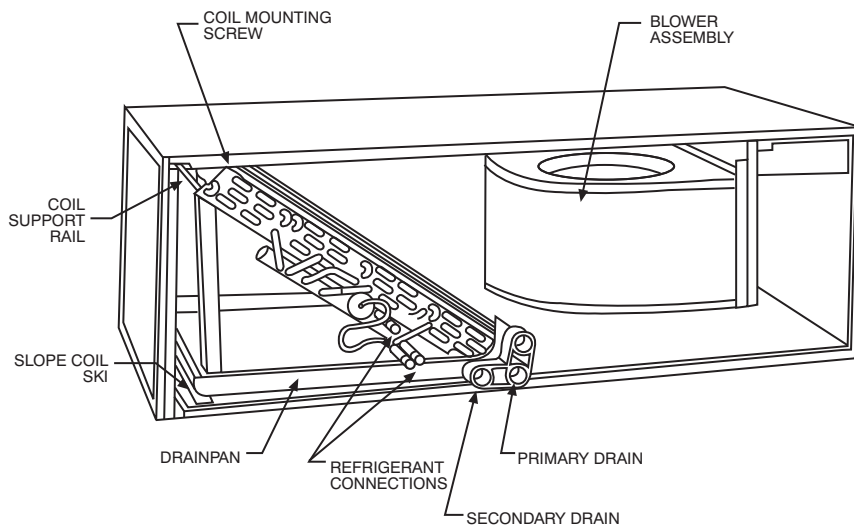

Fig. 4 – Conversion for Horizontal Right Applications - Slope Coil Only
1. Remove blower and coil access panels and fitting panel (Fig. 4).
4. Lay fan coil on its right side and reinstall coil assembly with condensate pan down (Fig. 4).